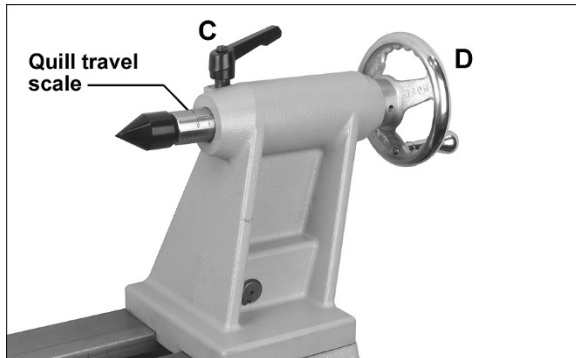

Figure 8-6: installing center in tailstock
- To remove the center from the tailstock, loosen locking handle (C, Figure 8-6) and retract quill by rotating handwheel counterclockwise until center dislodges on its own. Hold the center with one hand to prevent it from falling out of spindle, which can damage it.